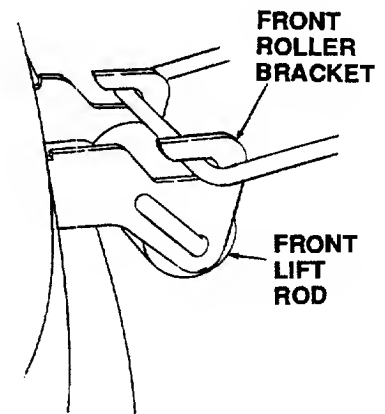

Figure 53
5. While holding the front lift rod up, slide the mower deck forward until the rod aligns with both front roller bracket slots. Lower the lift rod into the front roller bracket slots and slide the deck rearward to engage the lift rod fully forward in the slots of the deck front roller bracket (Refer to Figure 53).